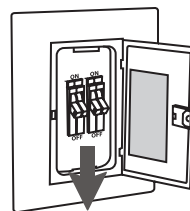

FIGURE 4
1. Disconnect power at the breaker to the fan location. A licensed electrician must install the fan. (Fig. 4)